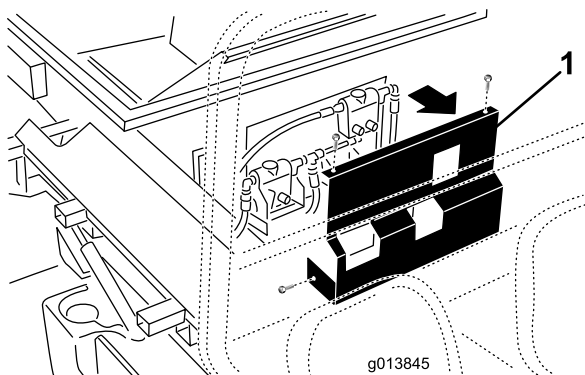

Figure 13
38. On the SH version, model 44701, remove the fasteners securing the cover to the front of the ProPass and set the cover aside (Figure 13).